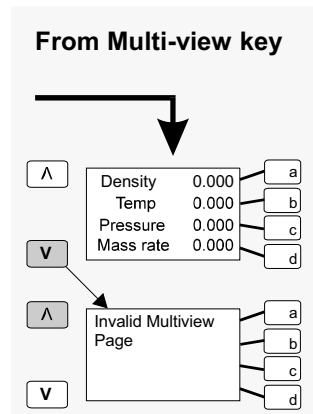

Figure 2.9: Multi-View display
22. Press the **MULTI-VIEW DISPLAY** button. The display looks similar to that in **Figure 2.9**, although values and titles shown may vary.